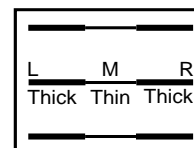

Fig.3
- 5) If the focus at points L and M is as shown in Fig. 3 or vice versa, adjust DBF-Para to make the horizontal center line have the same thickness at points L, M and R. And adjust the FOCUS-B VR again to make the horizontal center line sharpest at points L, M and R. (DBF-Para should not be adjusted when focus at points L and M is optimum.)